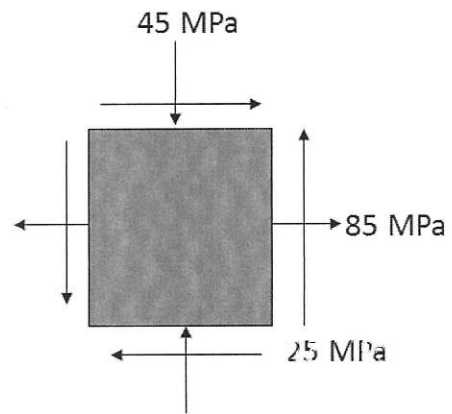

Figure Q6(c)
- (b) The state of plane stress shown occurs at a critical point of Cessna 172 landing gear is shown in **Figure Q6(c)** where $\sigma_x = 85$ MPa, $\sigma_y = -45$ MPa $\tau_{xy} = 25$ MPa. As a result of several tensile tests, it has been found that the tensile yield strength is $\sigma_Y = 250$ MPa for the grade of steel used. Determine: